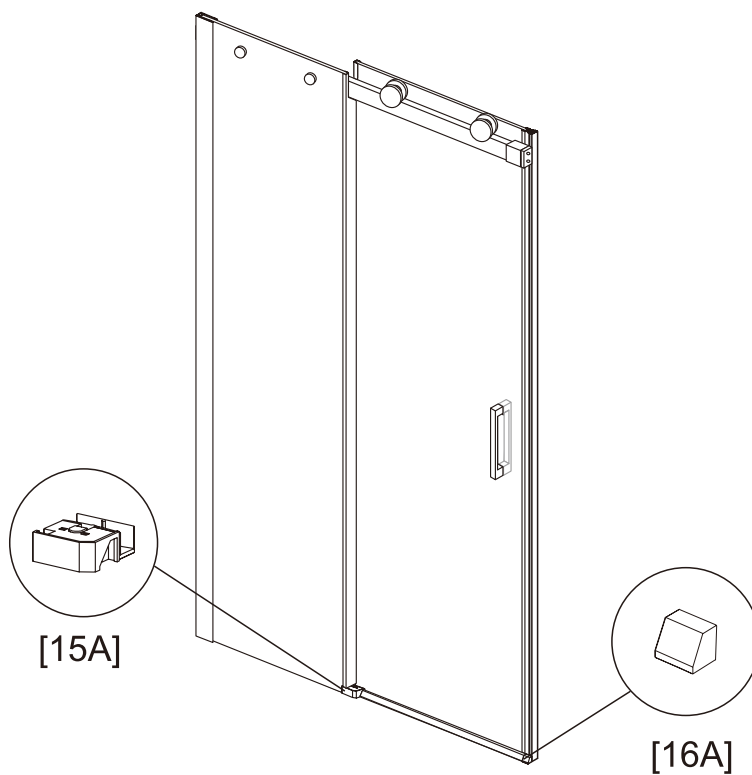

Fig 24
2. To install **Door Panel [09]** on the right: Use **Bottom Guide [15A]** and **Seal [16A]** (Fig 24).